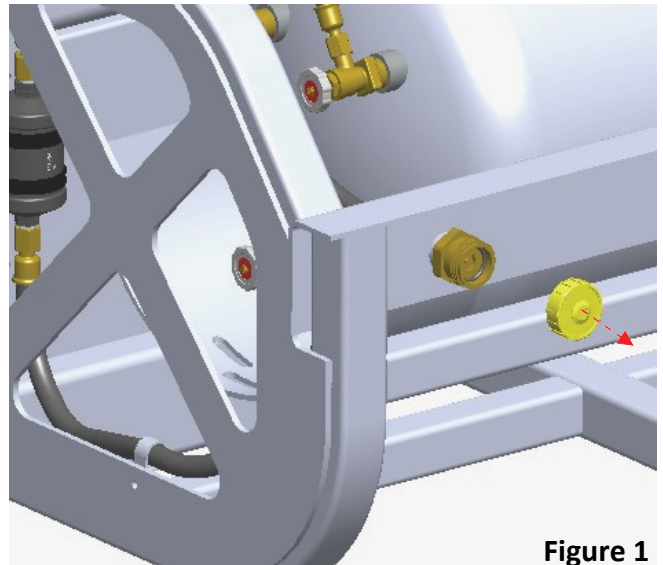

Figure 1
- 1) Remove filler valve cap from the LPG tank that is going to receive the fuel transfer . **Figure 1**